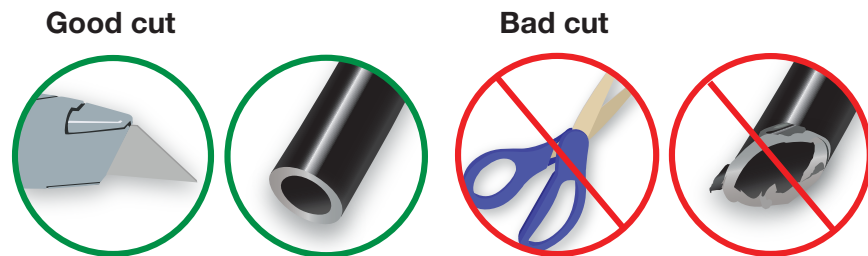

fig. 5
5. Route air line to inlet port of the compressor. Measure and cut squarely to appropriate length (Fig. 5). Make sure when routing to keep away from sharp edges and allow for proper bend radius (minimum bend radius for 1/4" air line is 1" [25mm]) to avoid kinking.
Use a sharp knife or a hose cutter and make clean, square cuts (Fig. 5). Do not use scissors or wire cutters because these tools will deform the air line. Do not cut the lines at an angle. The minimum bend radius for 1/4" air line is 1" (25mm). Air lines are to be installed straight into fittings. Inspect the air line for scratches that run lengthwise. Contact Air Lift customer service if the air line is damaged.